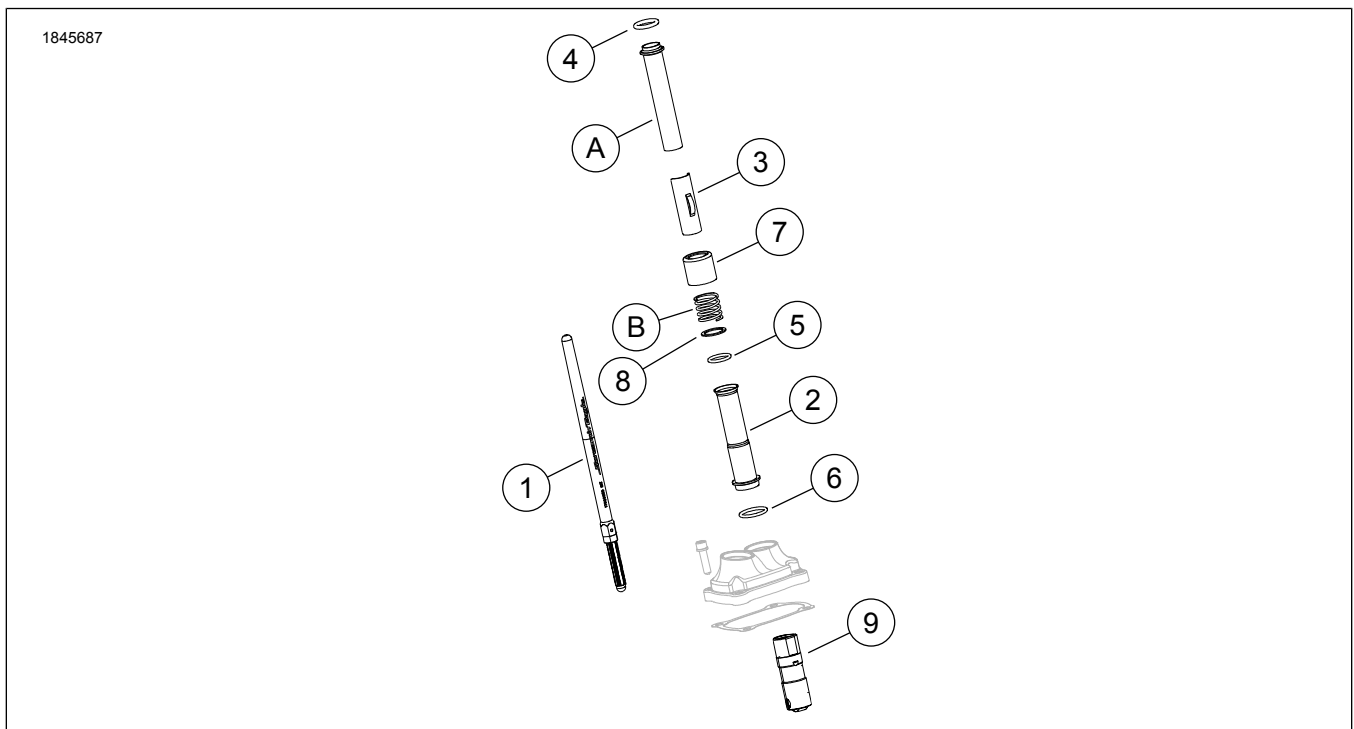
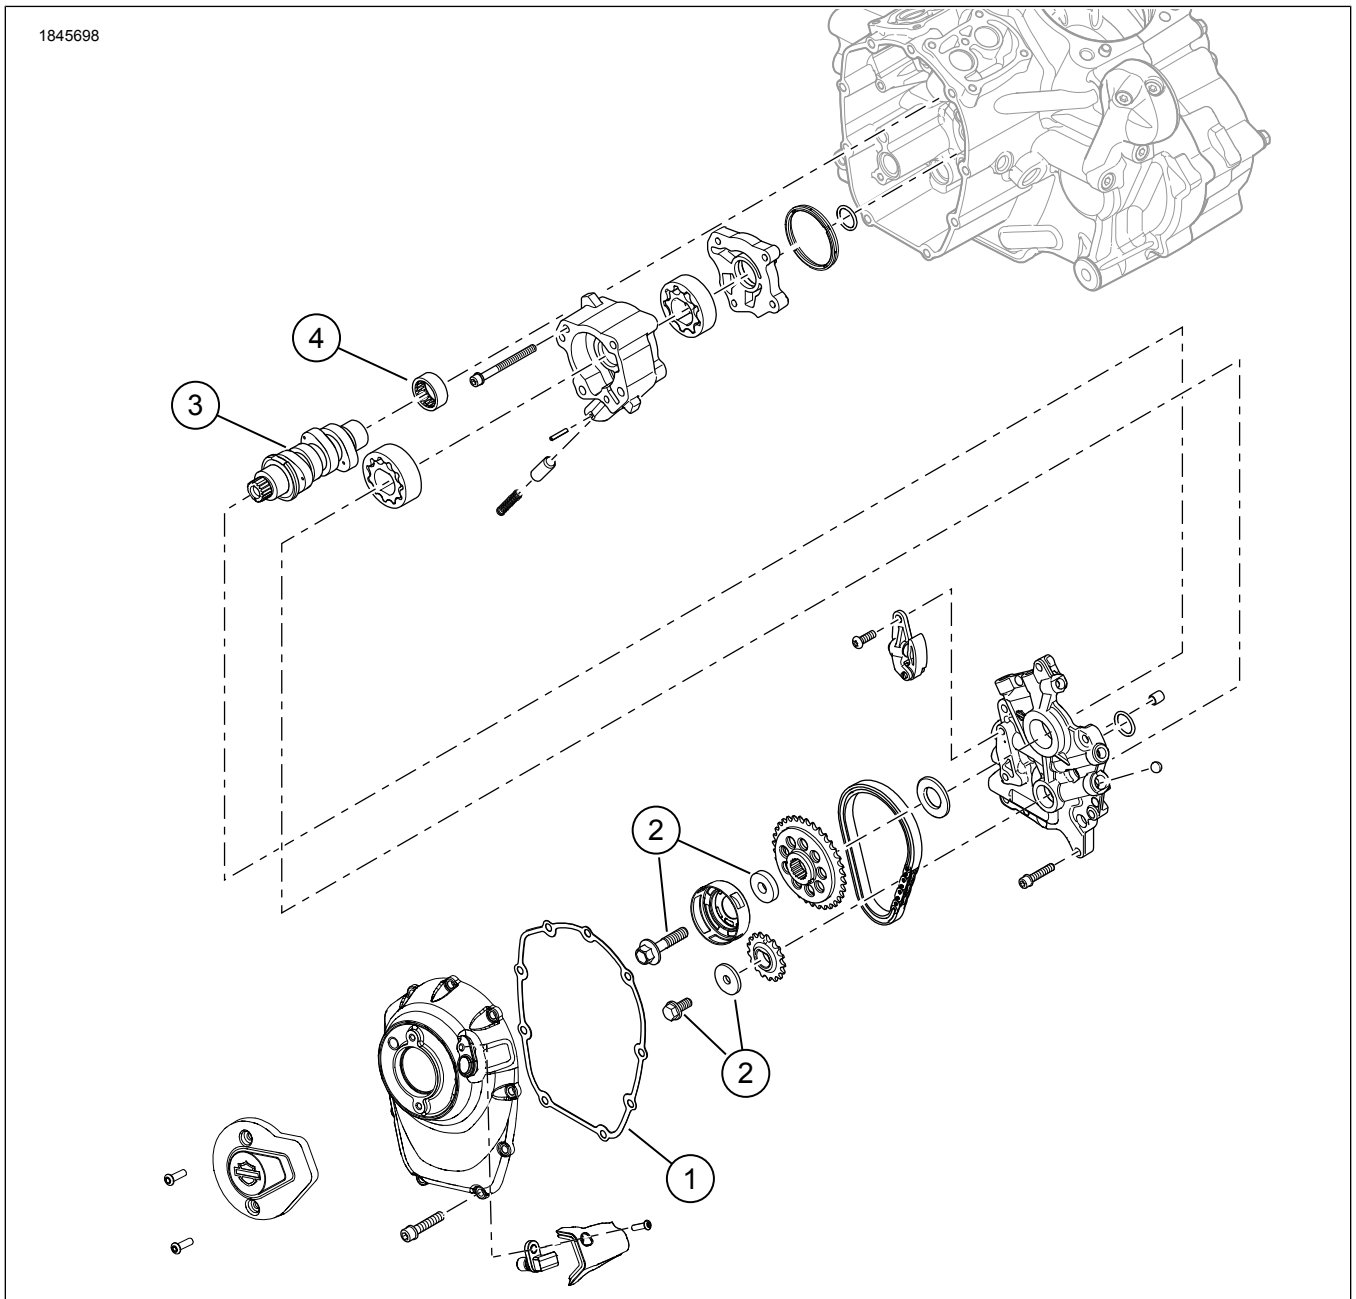

Figure 1. Kit Contents: Screamin' Eagle Milwaukee-Eight Stage 2 Kit
Figure 2. Kit Contents: Screamin' Eagle Milwaukee-Eight Stage 2 Kit
See Figure 1 and Figure 2.
1. Figure 2 Install oil pump. See service manual.